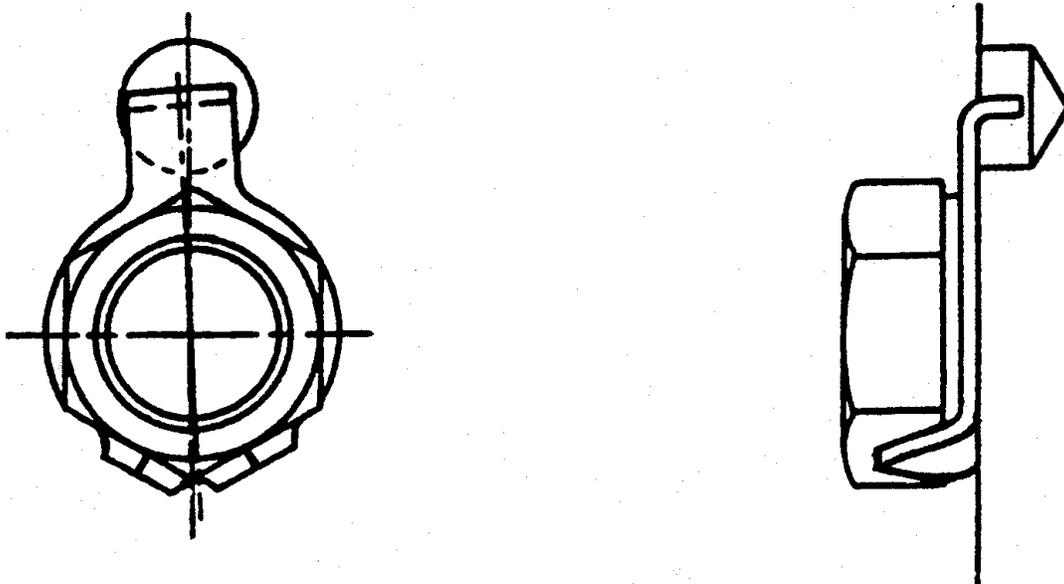

FIGURE 9-3. TAB WASHER INSTALLATION PROCEDURE
3. Bend tabs against the head flats firmly by tapping them into place with a soft drift. See Figure 9-3, "Tab Washer Installation Procedure."